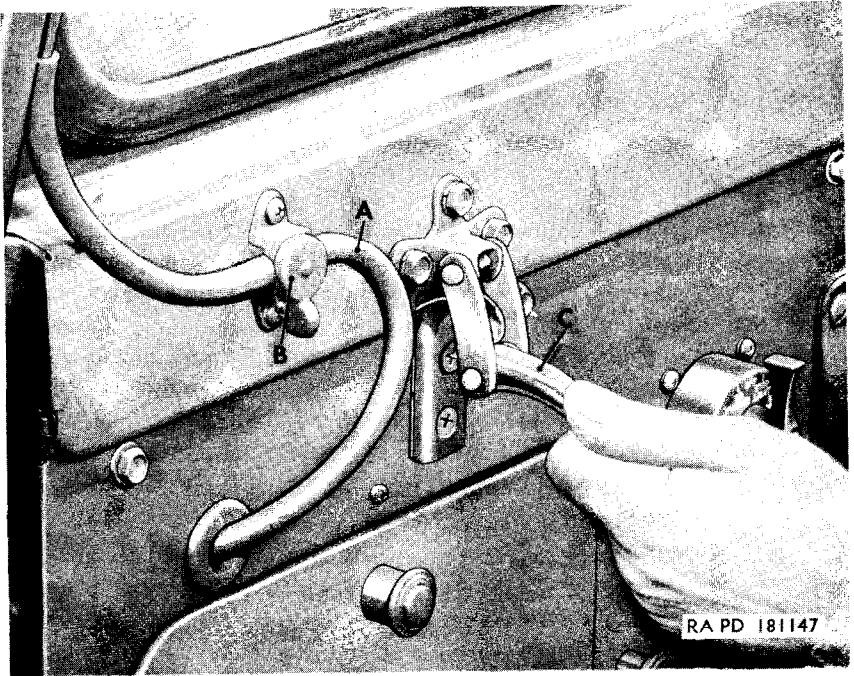
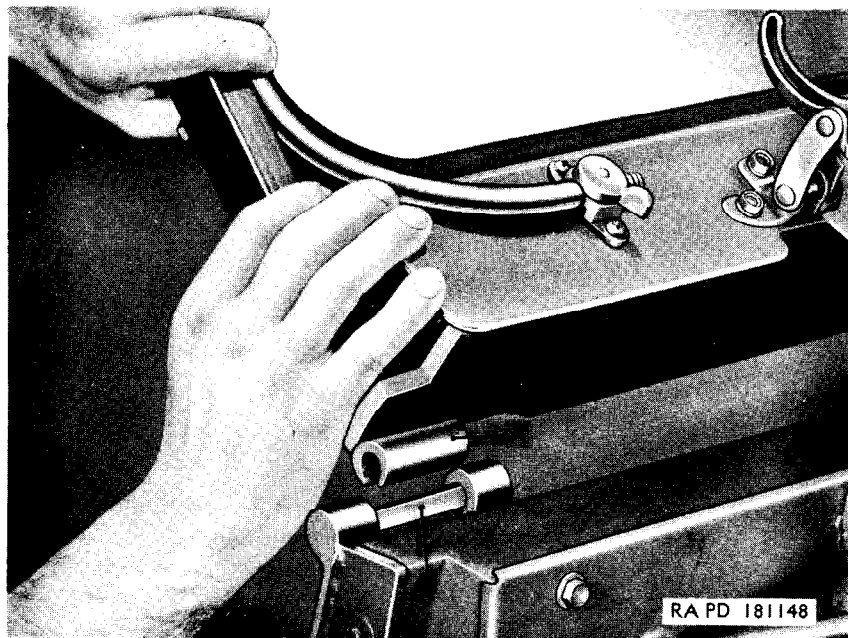

Figure 11. Disconnecting windshield wiper hose from windshield wiper and regulating valve.
Figure 12. Removing windshield assembly.
- a.* Pull windshield wiper hose (A, fig. 11) from air regulating valve (B, fig. 11).
b. Unhook windshield lock (C, fig. 11) at each side of windshield assembly. Lower windshield assembly forward until slots in male half-hinges (A, fig. 12) aline with flat faces of female half-hinges (cowl halves) (B, fig. 12). Slip female half-hinges off pins and remove windshield assembly from body.